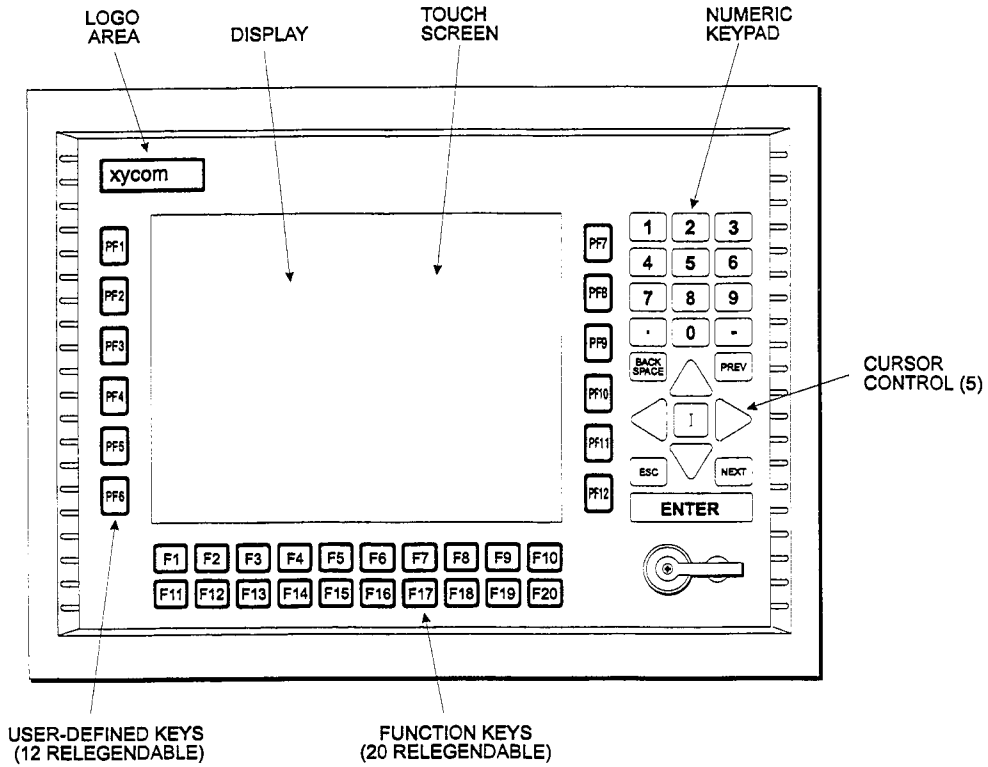

Figure 2-1. Front Panel (3200)
Data entry keypads are for entering data and moving the cursor. The numeric keypad includes numbers 0-9, “.” and “-”, cursor keys, (up, down, left, right), back space, ESC, Prev, Next, ENTER and ‘I,’ which is equivalent to the right ALT key. The 3200 keypad remains operational up to three million touches (minimum). Refer to Figure 2-1.
This standard PS/2-compatible connector (located below the ENTER key on the 3200 only) is PC/AT compatible to access data entry functions. A second keyboard port, labeled KEYBD, is accessible on the bottom of both units. Refer to figures 2-1 and 2-2.
This standard PS/2-compatible connector is PC/AT compatible to access data entry functions. This port—labeled KEYBD—is located on the bottom of the unit. The port is also accessible through the front panel on the 3200 (refer to figures 2-1 and 2-3).
- *Figure 2-1, page 2-3 - Front Panel (3200)*